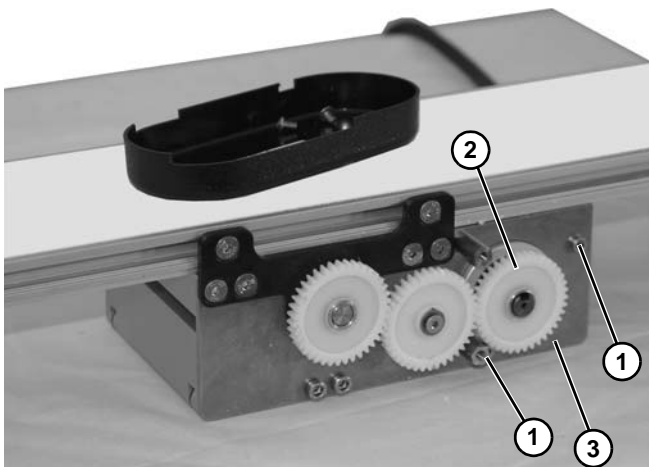

Figure 18
4. Remove two screws (**Figure 18, item 1**) securing drive motor (**Figure 18, item 2**) to mid drive bracket (**Figure 18, item 3**).